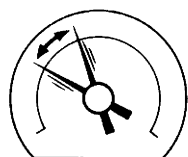

Fig. 74: Needle Fluctuations When Testing Fuel-Cut RPM
2) Gradually raise engine RPM. Fuel-cut operation can be checked by noting the fluctuation of tachometer needle. Fluctuation indicates fuel-cut system is being turned on and off. See Fig. 74. Check that fuel-cut points and fuel return points are within specifications. See FUEL-CUT & FUEL RETURN RPM table.